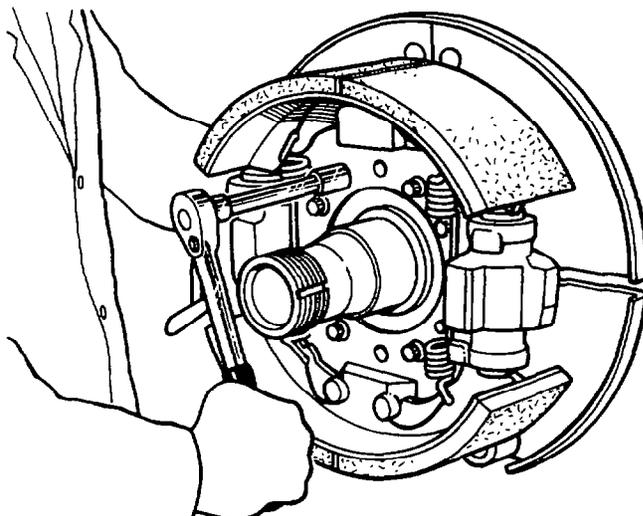

Fig. 368 — Removing Brake Assembly Retaining Bolts
j. Remove the eight bolts (twelve-pointed) securing the brake assembly and spindle to the spindle yoke (see fig. 368). Remove the brake assembly and spindle.